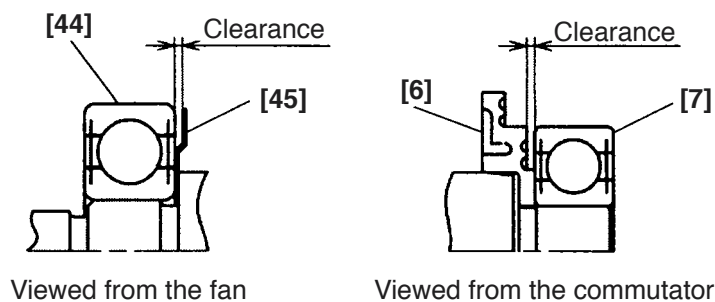

Fig. 10-1
(1) Mounting direction of Washer (A) [45] and Dust Seal [6] (Fig. 10-1)